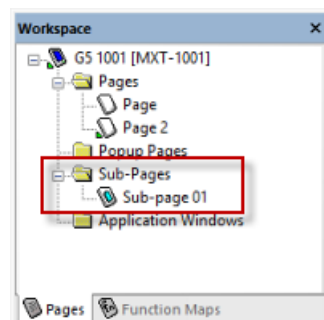

FIG. 106 Workspace window - "Sub-page 01" added to the project
5. The newly created Sub-Page is listed in the Workspace window - Pages tab, in the *Sub-Pages* folder. (FIG. 106):